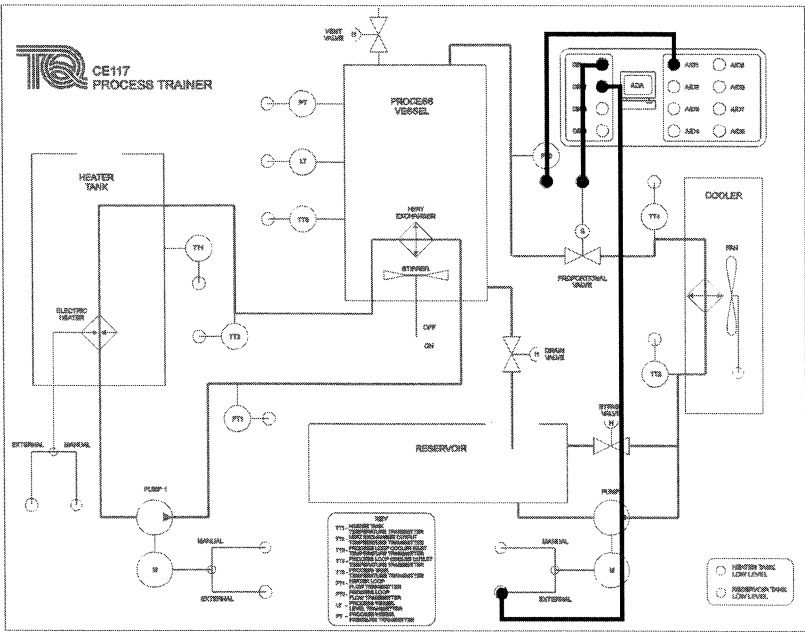

Figure 52 Connections for Experiment 2 Procedure 1
- 3) Connect the CE117 Mimic Panel as shown in Figure 52. Set Pump 2 switch to 'External'. Analogue signals will pass from the ADA section to Pump 2, the proportional valve S and from flow transmitter FT2.